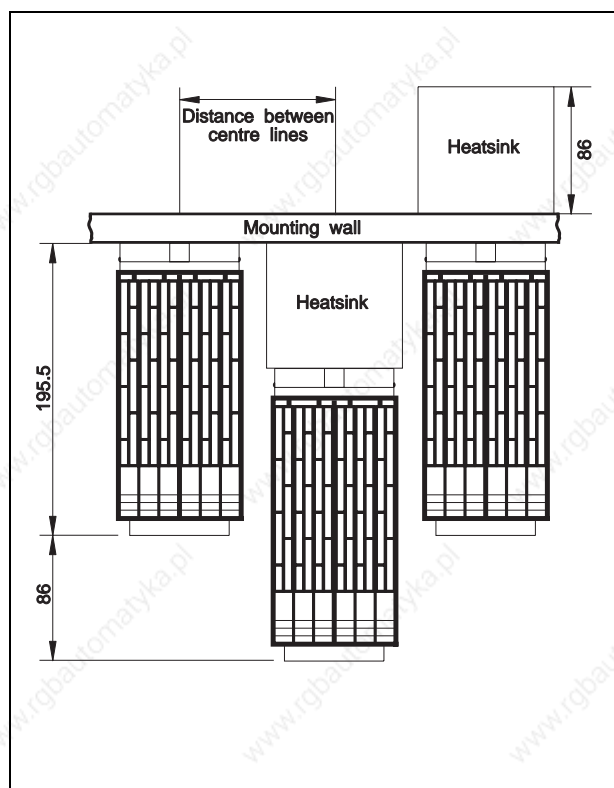

Figure 6-5 Mounting of Heatsink
The heatsink (figures 6-5 and 6-6) can be mounted inside or outside of the switch cabinet.
1. With the heatsink mounted inside the switch cabinet (see figure 6-5).
1. With the heatsink mounted outside the switch cabinet (see figure 6-5).